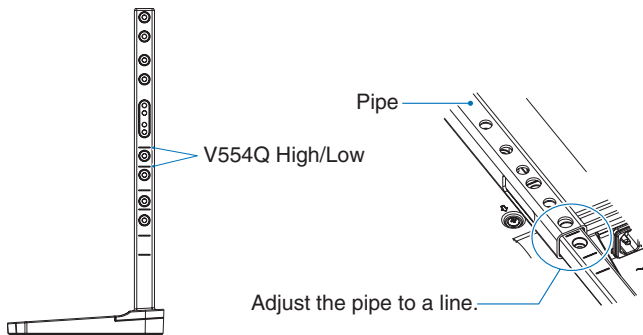

Figure 3
1. The lines on the stand pole are indicators of the height adjustment (Figure 3). Please adjust the pipe to the lines.